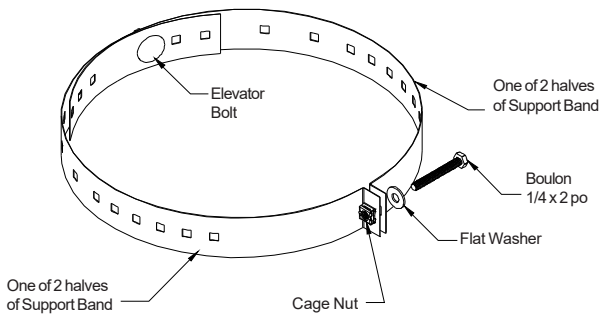

Figure 31 Universal Support Band formed into a circle
23. Form the Band into a ring and loosely connect tabs using the 1/4" x 2" nut and bolt (See Figure 31).
C. Form the band into a circle (see Figure 31) and loosely connect tabs using the supplied 2" bolt into the cage nut located on one of the two formed tabs.